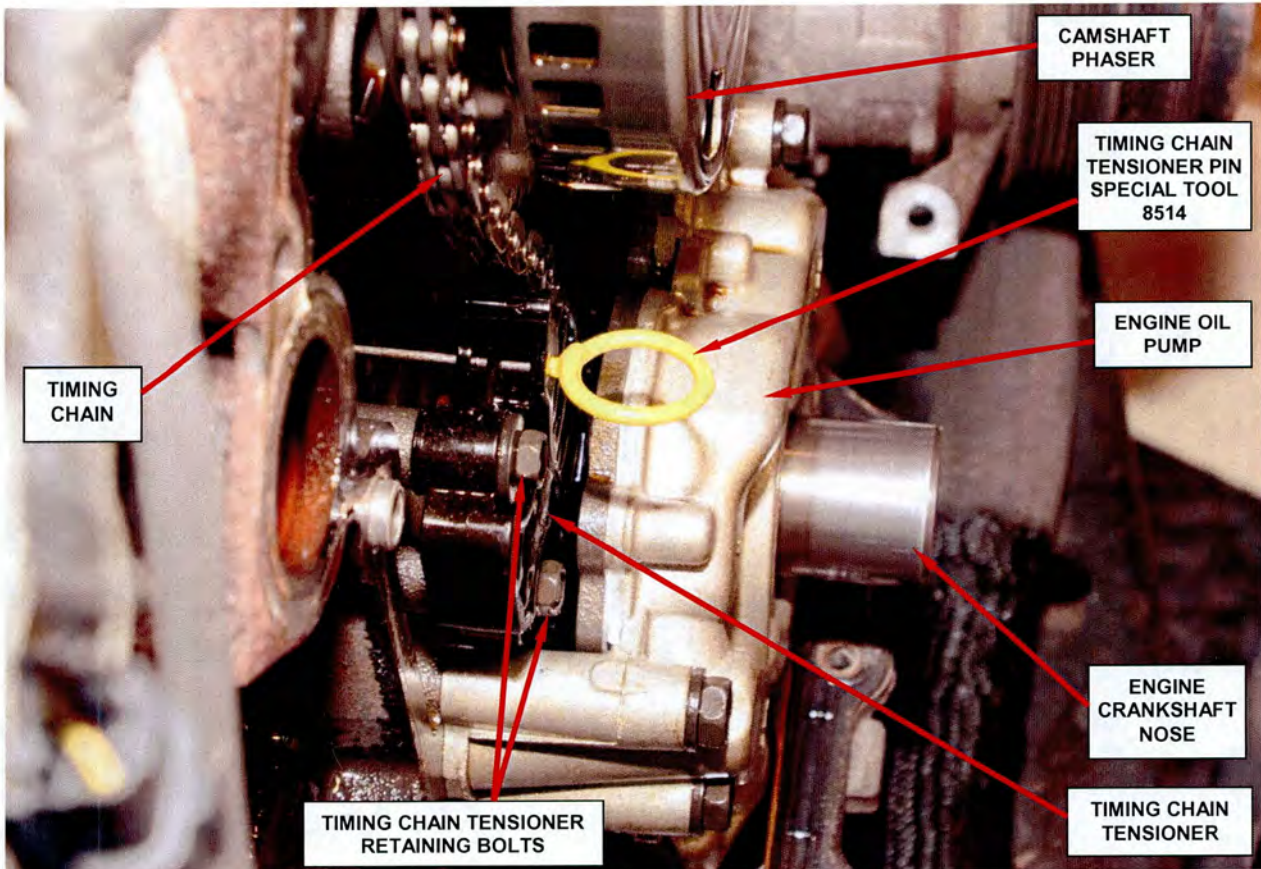

**Figure 7 – Camshaft Gear and Timing Chain Marks**
35. Bar the engine over by hand until the timing mark on the camshaft gear is aligned with the camshaft timing chain marks and all the marks are at the 12 o'clock position (Figure 7).